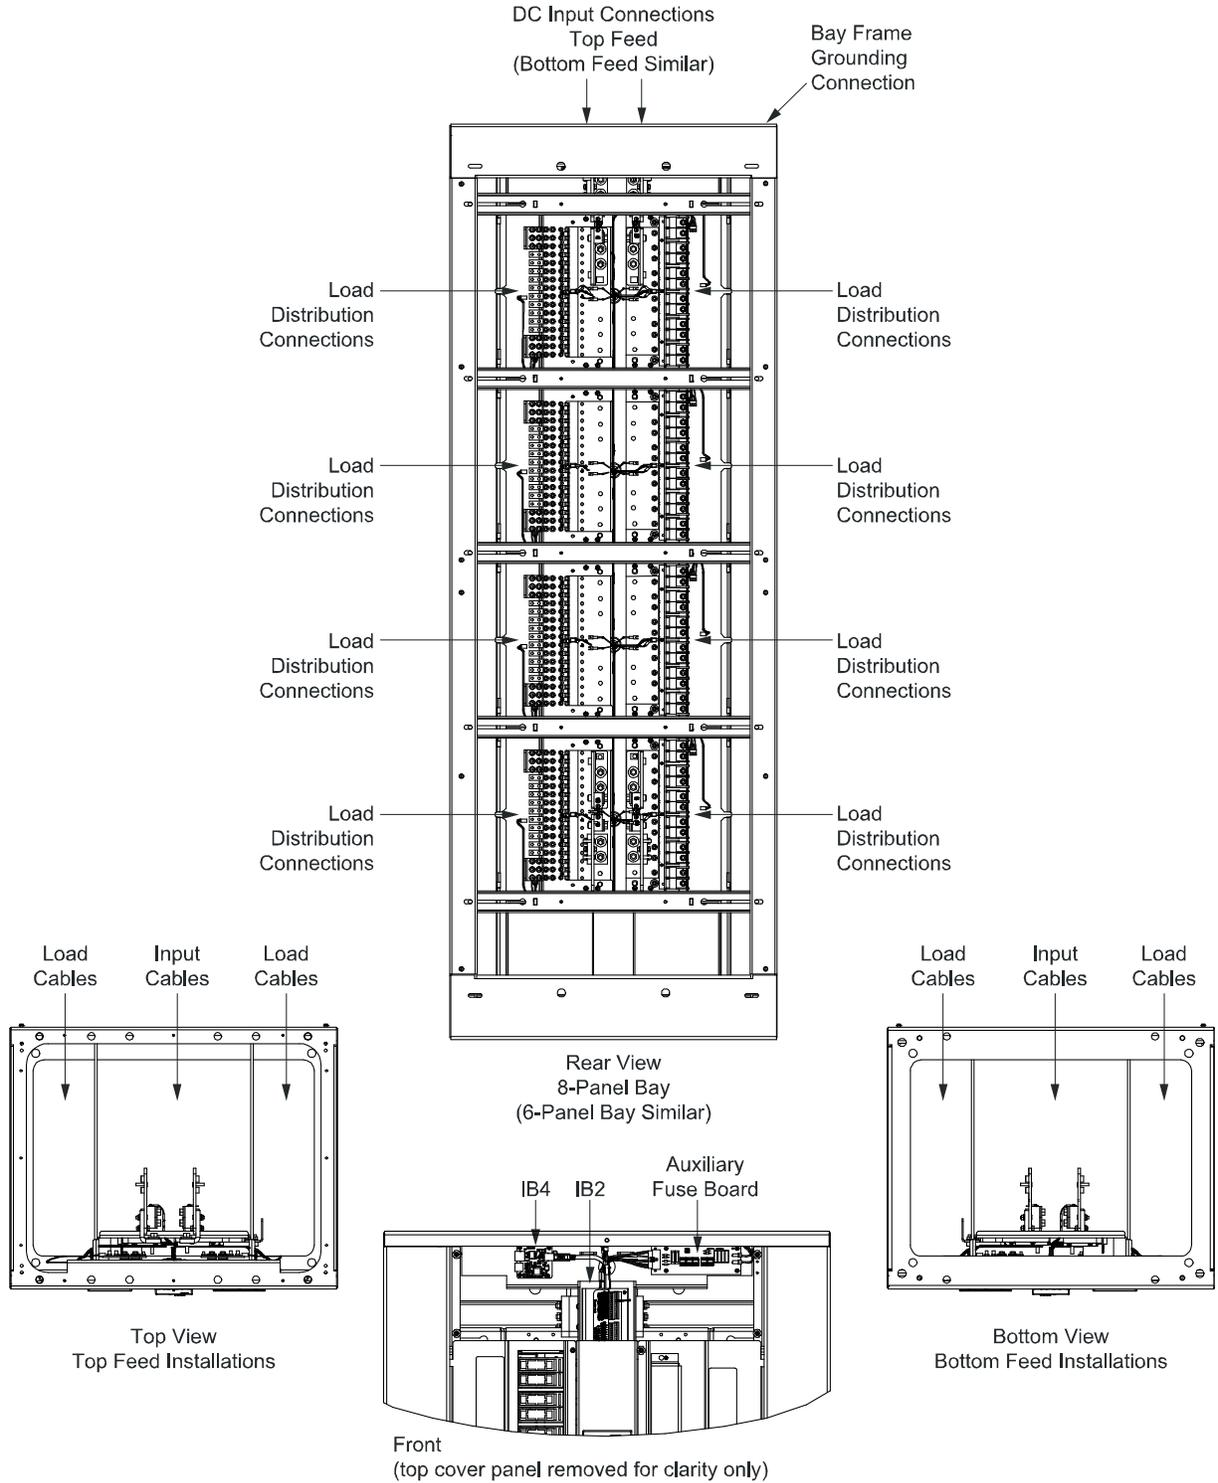
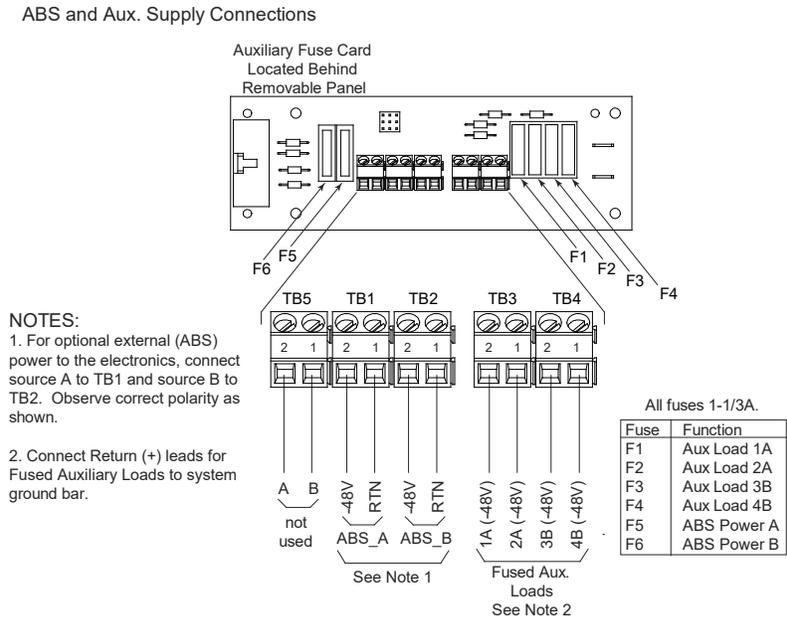
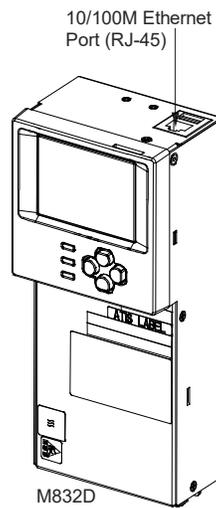
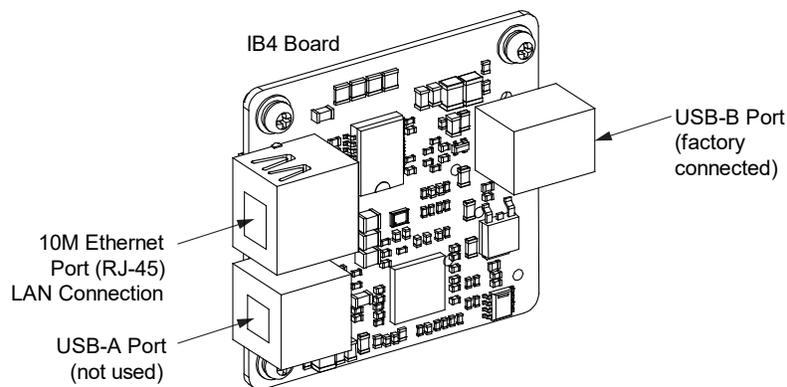

Figure 10
Figure 12
Figure 14
Figure 15
- ◆ Control and auxiliary load fuses are located on the fuseblock mounted at the top right of each bay. See Figure 10 and Figure 12.
The monitor unit provides a Web Interface via an Ethernet connection to a TCP/IP network. This interface can be accessed locally on a computer or remotely through a network. An Ethernet port is provided on the monitor unit's top panel (see Figure 14). A second Ethernet port is provided on the IB4 board (see Figure 10 and Figure 15). The Ethernet port located on the monitor unit's top panel can ONLY be used to connect a computer directly to the monitor unit. The Ethernet port located on the IB4 board can be used to connect the monitor unit to your Local Area Network (LAN).
An RJ-45 10BaseT jack is provided on the top panel of the monitor unit for connection to a computer for local access to the monitor unit's web pages (see Figure 14).
An RJ-45 10BaseT jack is provided on the IB4 board for connection into a customer's Local Area Network (LAN) for remote access to the monitor unit's web pages (see Figure 10 and Figure 15).